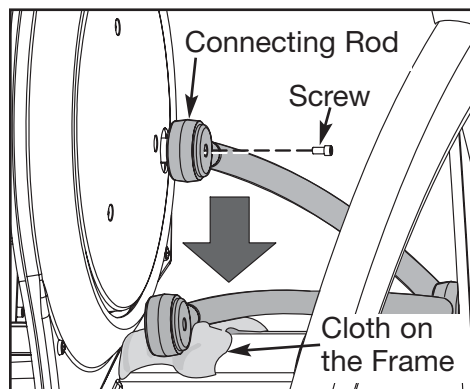

Figure 4
- A. Using a 3/16" hex key, remove the screw securing each connecting rod to each crank. See Figure 4.
- C. Rest each rod on a cloth to prevent scratches. See Figure 4.